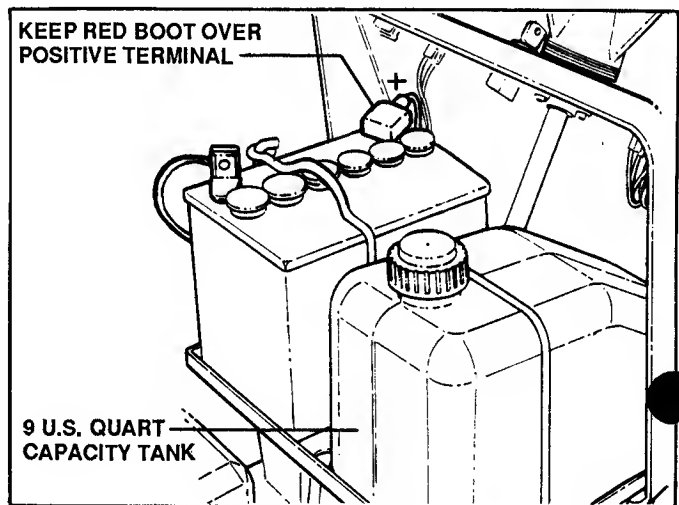

FIGURE 5
- ADD FUEL to tank after pushing the mower outside where fumes can be dissipated. Make sure cap is tightened after refueling. (Refer to engine manual for fuel specifications). See Figure 5.